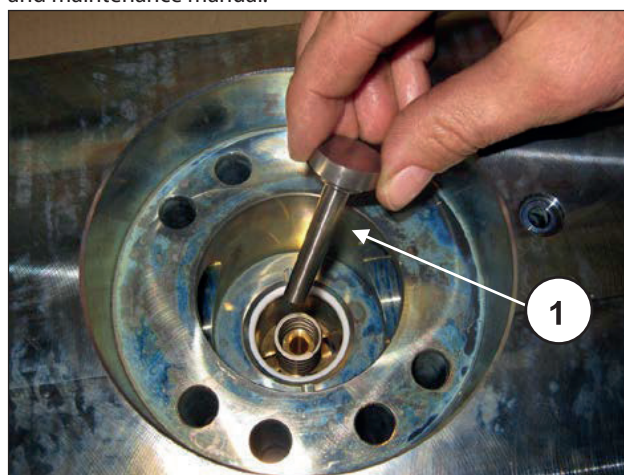
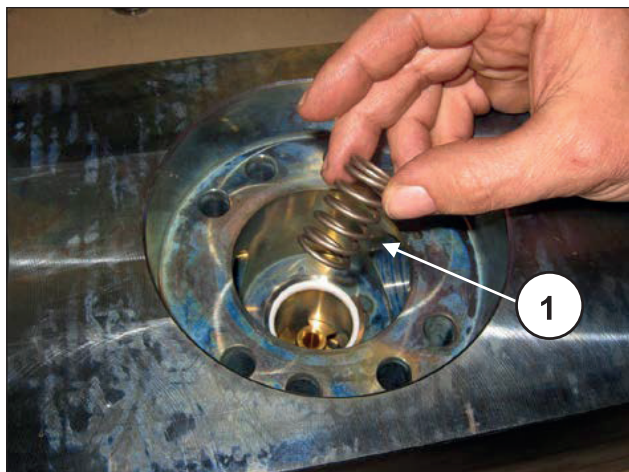
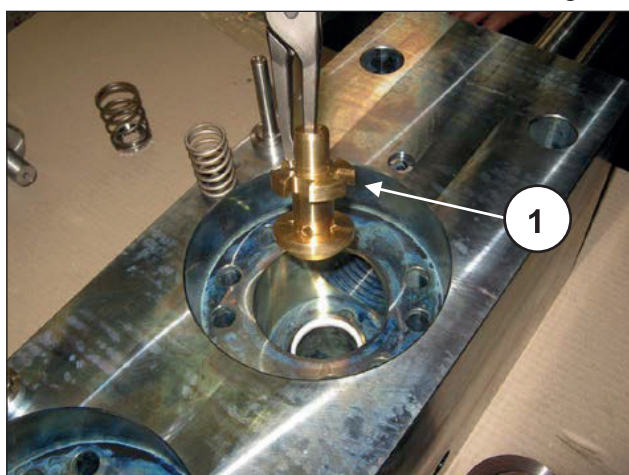

Fig. 181
Fig. 182
Fig. 183
Extract the outlet plates (pos. ①, Fig. 181) with the springs (pos. ①, Fig. 182) and their guides (pos. ①, Fig. 183); check for wear and replace if necessary. However, these must be performed at the intervals indicated in chapter 11 of the use and maintenance manual.